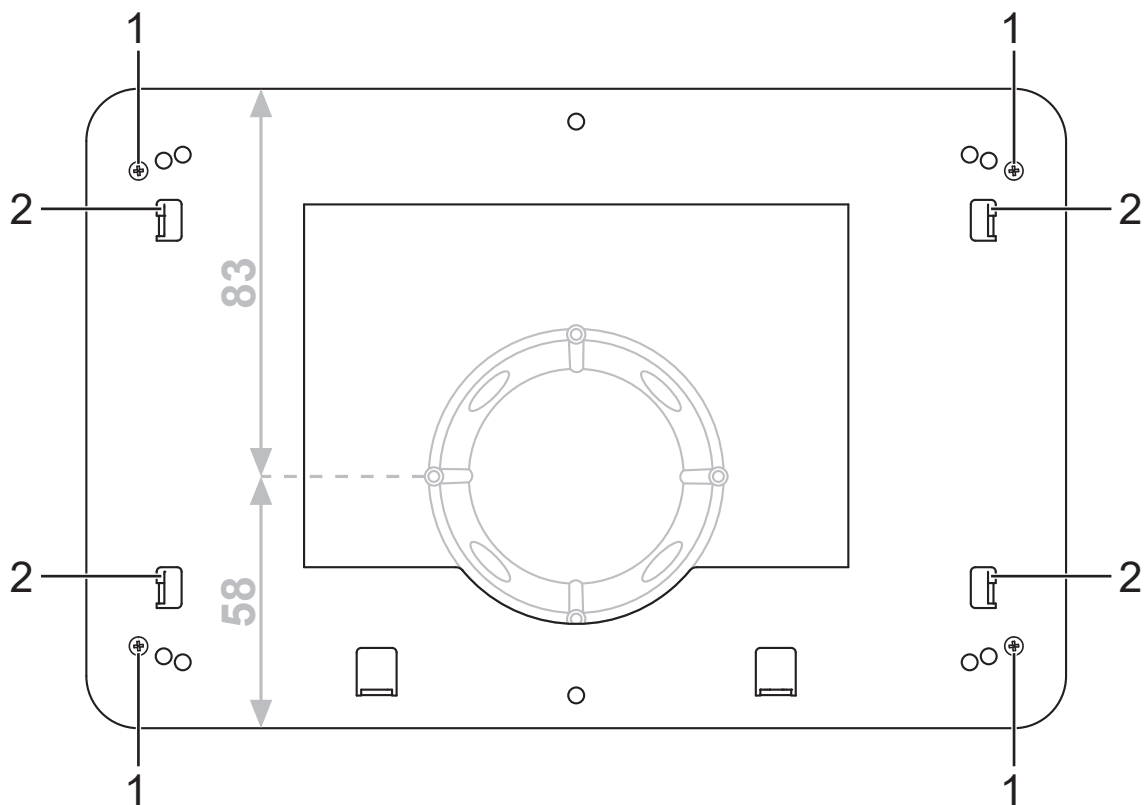
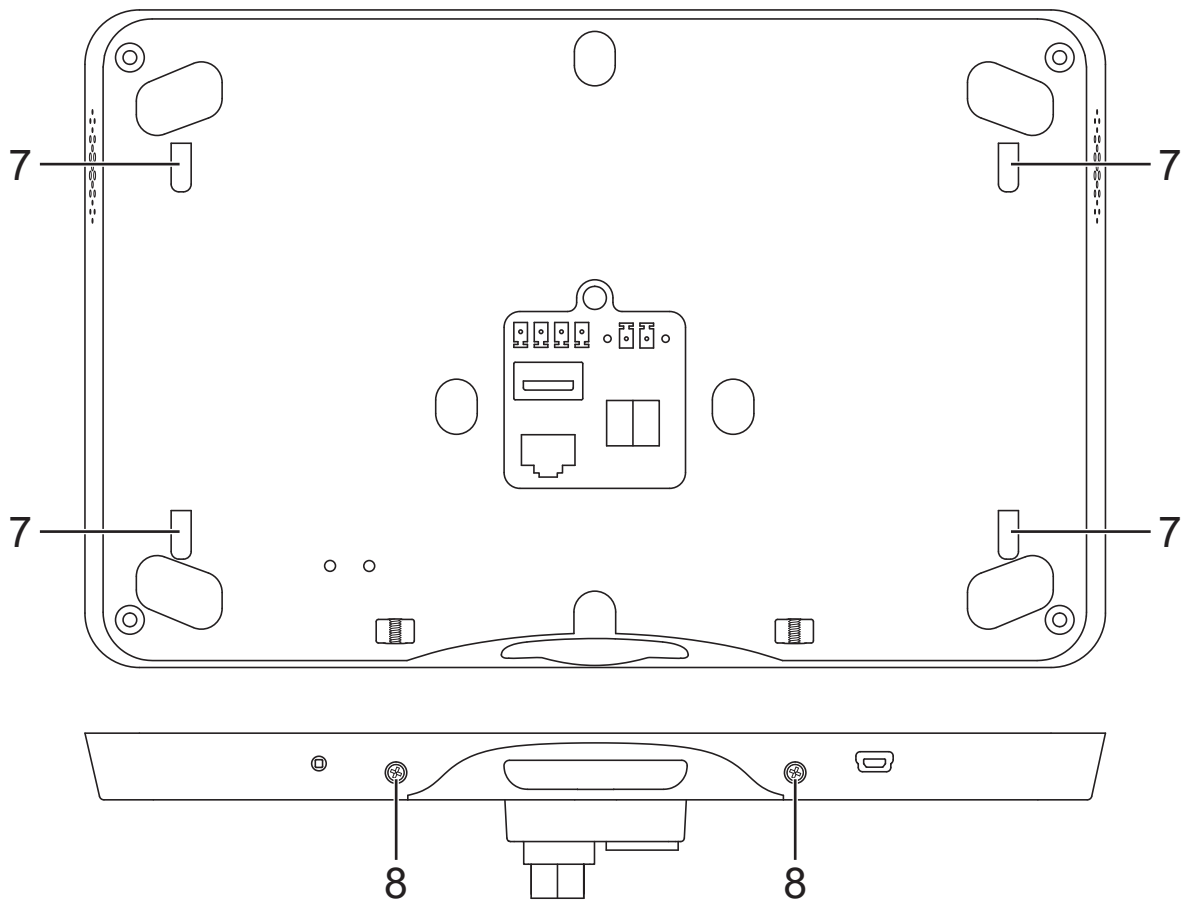

Fig. 2: Montage Adapter
Fig. 4: Montage Smart Panel
- Mount the adapter on the installation box with a total of four locking screws (1). (fig. 2)
- Place the openings for wall mounting (7) on the Smart Panel on the fixing hooks (2) on the adapter. (fig. 2 and fig. 4)
- Fasten the Smart Panel to the adapter on the underside with a total of two locking screws (8). (fig. 4)